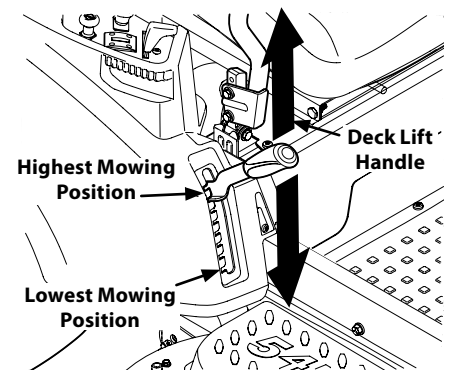

Figure 4-12
- a. Using the deck lift handle, raise the deck to the position that provides the most horizontal run of the belt between the deck idler pulleys and the PTO pulley on the bottom of the engine. See Figure 4-12.
- d. Lower the deck into the lowest mowing position using the deck lift handle. See Figure 4-12.
- e. Lower the deck into the lowest mowing position using the deck lift handle. See Figure 4-12.
11. Place the deck lift handle into the highest mowing position and slide the deck out from beneath the tractor. See Figure 4-12.
- Place the deck lift handle in the highest mowing position. See Figure 4-12.